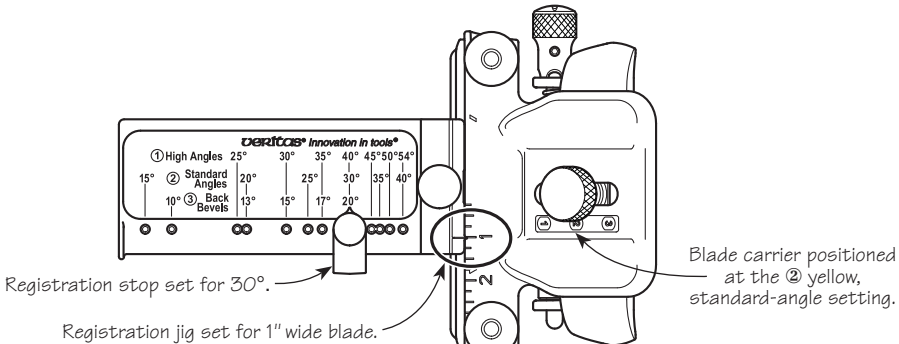

Figure 5: Registration jig installed.
Slide the registration jig onto the dovetail feature along the front of the blade carrier. Set the registration jig such that the pointer on the top jaw of the jig aligns with the approximate width of your blade on the scale on the top of the blade carrier (see **Figure 5**). Tighten the registration jig clamp knob only finger tight. **Do not** overtighten as it is desirable to have some up and down movement of the registration jig to allow it to easily slide off the blade when loosened.
Set the registration stop to the desired bevel angle, aligning it with the scale of your choice. The registration stop in **Figure 5** is set for a 1" wide blade and a 30° bevel angle using the ② (yellow) standard-angle configuration.